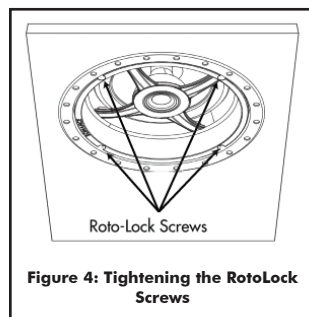

Figure 4: Tightening the RotoLock Screws
4. Tighten the screws on the front of the speaker baffle. The Roto-Lock toggle feet will automatically rotate into position and begin clamping the speaker (Figure 4). When you notice resistance on the screws the speaker has been clamped successfully.